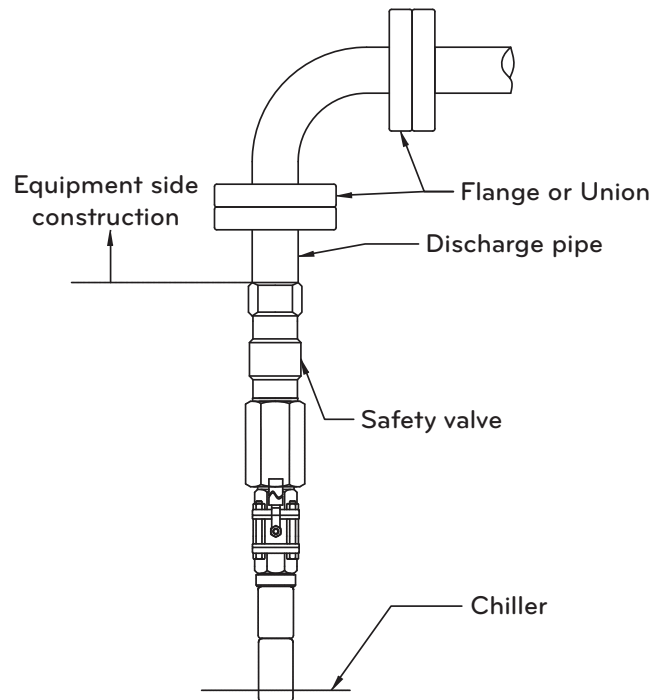

Figure 13. Installation instruction for safety valve outside discharge pipe
- 1) When installing the Centrifugal chiller, the safety valve installed on each Centrifugal chiller must lead gas discharge pipe to the outside based on the regulation provided by Article 8 of "Refrigeration Manufacturing Facility Standard and Technical Standard" as shown in Fig 13.
- 2) In order to make it easy to perform the work when connecting the discharge pipe and change safety valve, form piping connections in the "└" shape using a flange or union, as shown on the Figure 13.